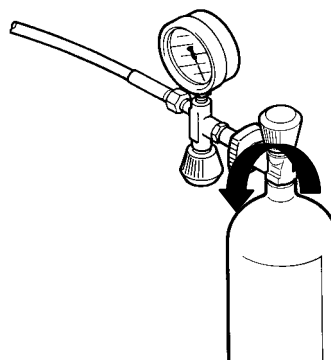
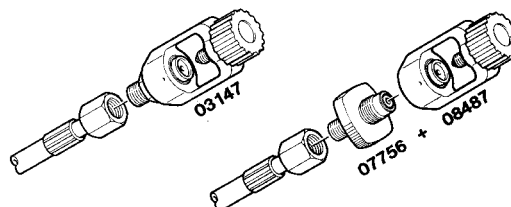

Fig. 19 Connecting air bottle
Fig. 20 International filling connector
- Connect air bottle to filling valve (see Fig. 19 and Fig. 20).